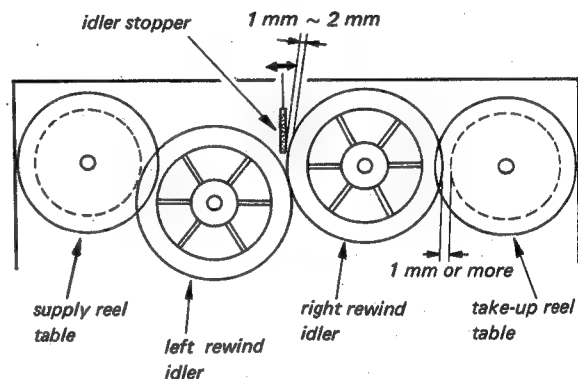

Fig. 4-16. Rewind idler adjustment
3. Set the Function Lever to STOP. Check that the Right Rewind Idler is clear of the Idler Stopper by 1 to 2 mm. See Fig. 4-16. If this condition does not exist, bend the Idler Stopper with a pair of pliers.
1. Set the Function Lever to STOP. Check that the Right Rewind Idler is clear of the Idler Stopper by 1 to 2 mm. See Fig. 4-16.